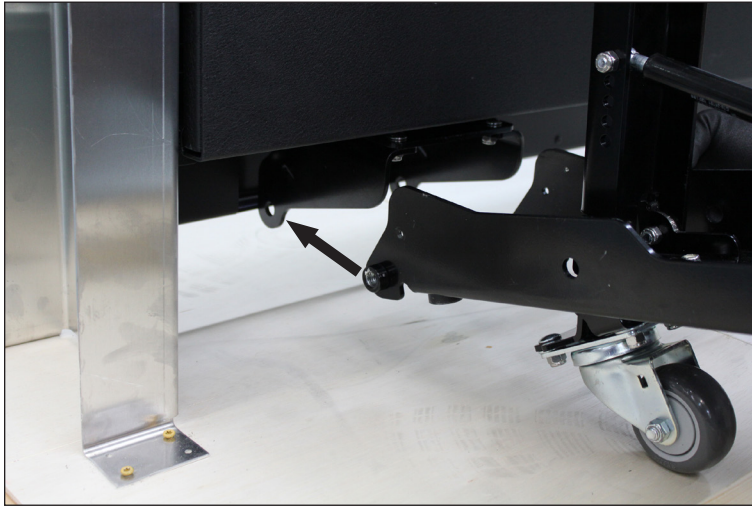

Figure 9: Line up Caster Base Assembly with Caster Base Vert
7. Locate a caster base vert underneath the table, and line up the caster base with the holes. Refer to **Figure 9**.